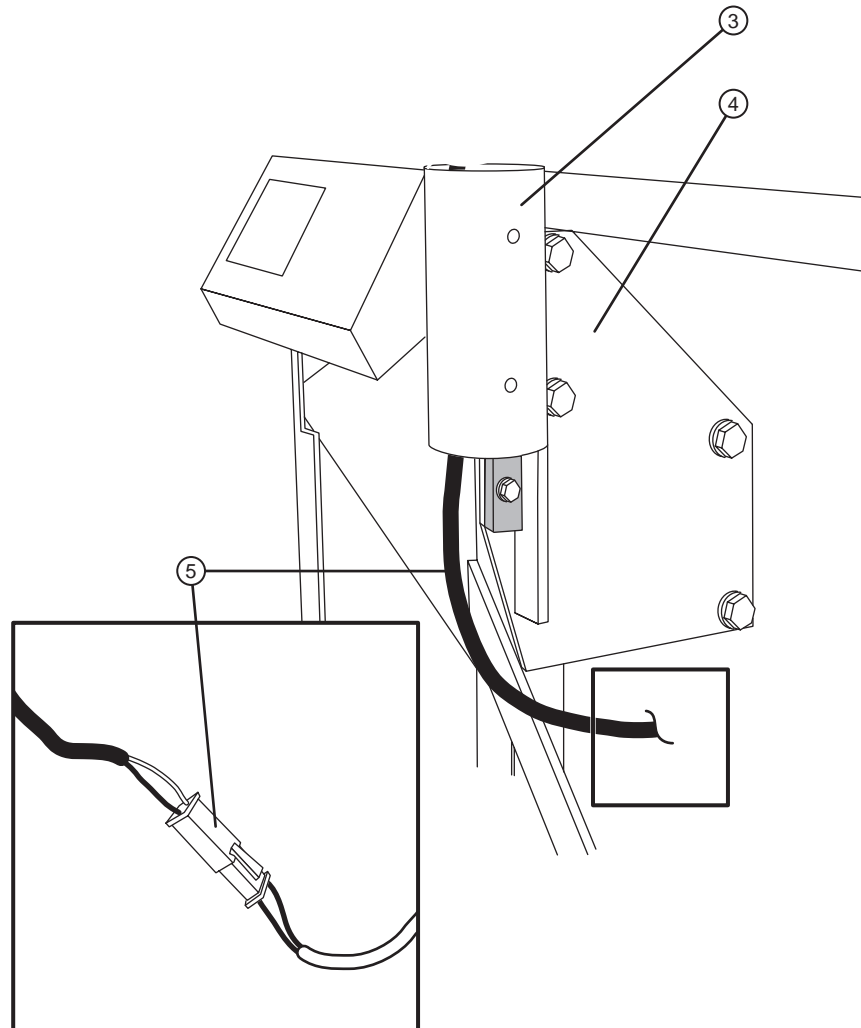

Figure 1-4 Crane power cable connections.
6. Lift the base of the boom into the adapter/mount. Route the power cable exiting the boom base down through the mount center. Refer to Figure 1-4.
7. Lower the boom into position until the boom fits snugly into the adapter/mount. Refer to Figure 1-4.
8. With the boom/adapter in place in the mount, connect the boom power cable to the matching plug at the OLP. Refer to Figure 1-4.
①— Power cable/connector.
- Using a phillips head screwdriver, remove the two (2) screws attaching the switch plate to the crane arm. Figure 1-4.